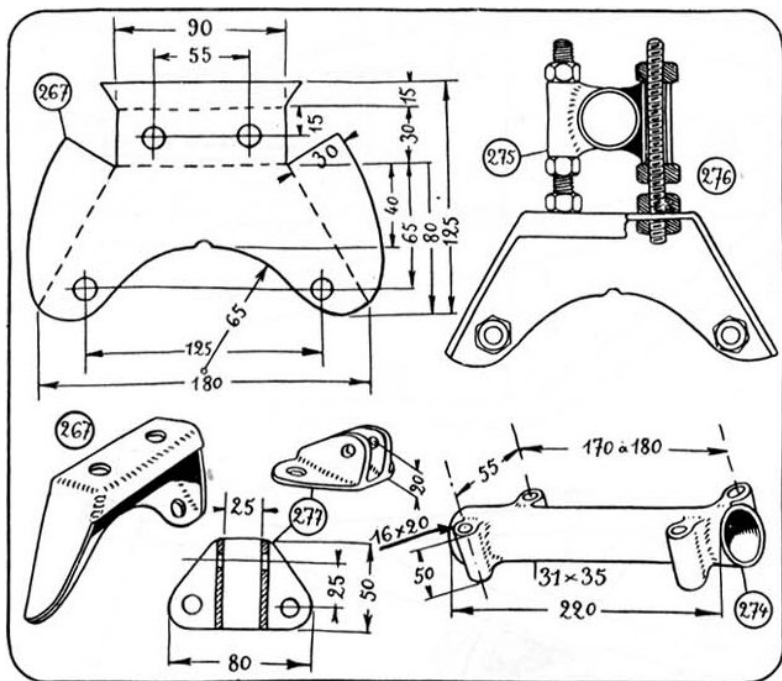

Figure 5.7: Engine mount fittings
The crankcase mounting flanges will be tightened by bolts (10mm threaded rods in the case of the 540cc Aubier and Dunne, which we will take here as an example) between the flanges (267) made of 2mm sheet metal (figures 5.7, 5.8). Ensure that the ears (268) are parallel.